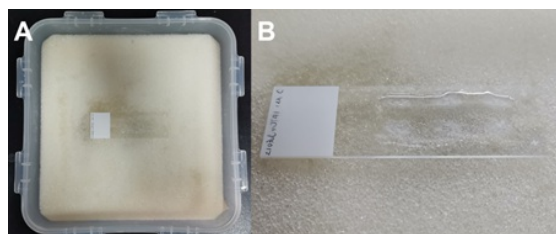

Figure 3. Pre-hybridization.
- At room temperature, rinse the slides with 1×PBS②, then with 1×PBS③ for 5mins.
- At room temperature, take the slides out, wipe the water off the back of the slides. Gently tap at the margin of the slides to remove the residual PBS from the tissue. Place the slides flatwise in the hybridization box. Instill the pre-hybridization solution onto the slide until the tissue is immersed. (Perform the above procedures quickly to keep the sections moist). Cover the lid and pre-hybridize for 1 hour (Figure 3).